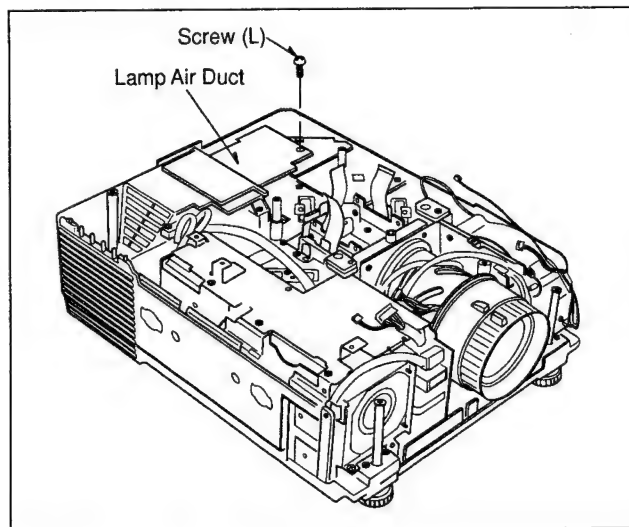

Fig. D12
1. Remove a screw (L) as shown in Fig. D12 and remove the Lamp Air Duct.